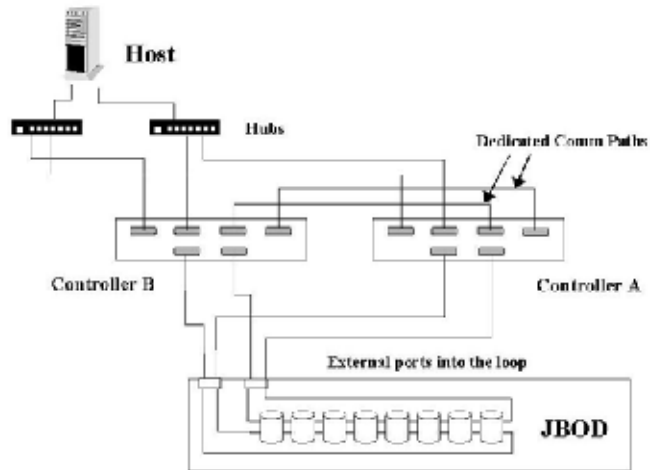

Figure 11–2 Redundant Controller
- 1 All channels should be connected to both controllers as shown in Figure 11–2.